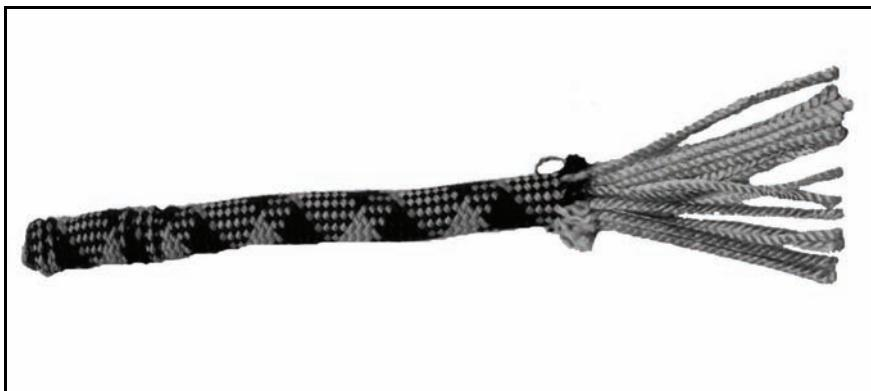

Figure 4-1. Kernmantle rope construction.
- (1) **Kernmantle Rope.** The construction technique used in this rope is referred to as kernmantle, which is essentially a core of nylon fibers protected by a woven sheath similar to parachute or 550 cord (Figure 4-1). (Kern means core; mantle means sheath.) The internal core of kernmantle rope is constructed of a continuous multifilament-nylon yarn that is spun into continuous parallel strands. This internal core is then covered with a nylon-braided outer sheath.